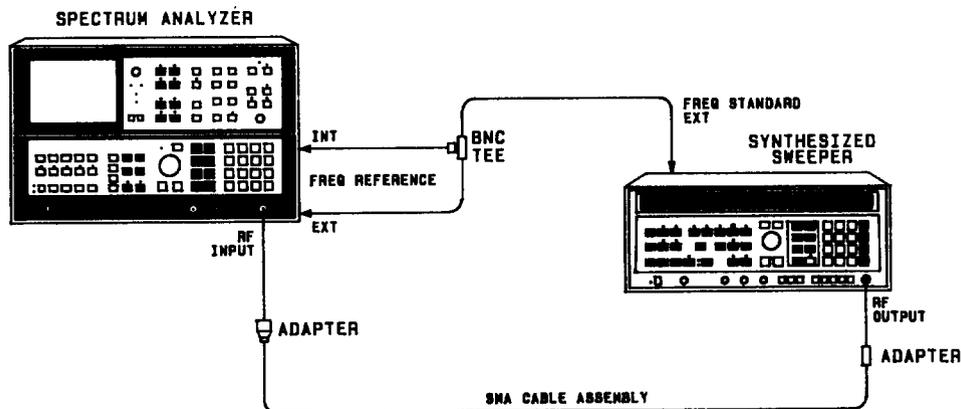

FIGURE 31. IMAGE, MULTIPLE, AND OUT-OF-BAND RESPONSES TEST SETUP
1. Connect equipment as shown in Figure 31 with the synthesized sweeper RF OUTPUT connected to the analyzer input.